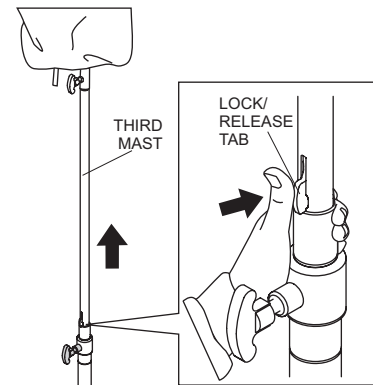

Figure 25. Lowering Third Mast
2. Push the lock/release tab on the third mast to release it and lower third mast. See Figure 25.